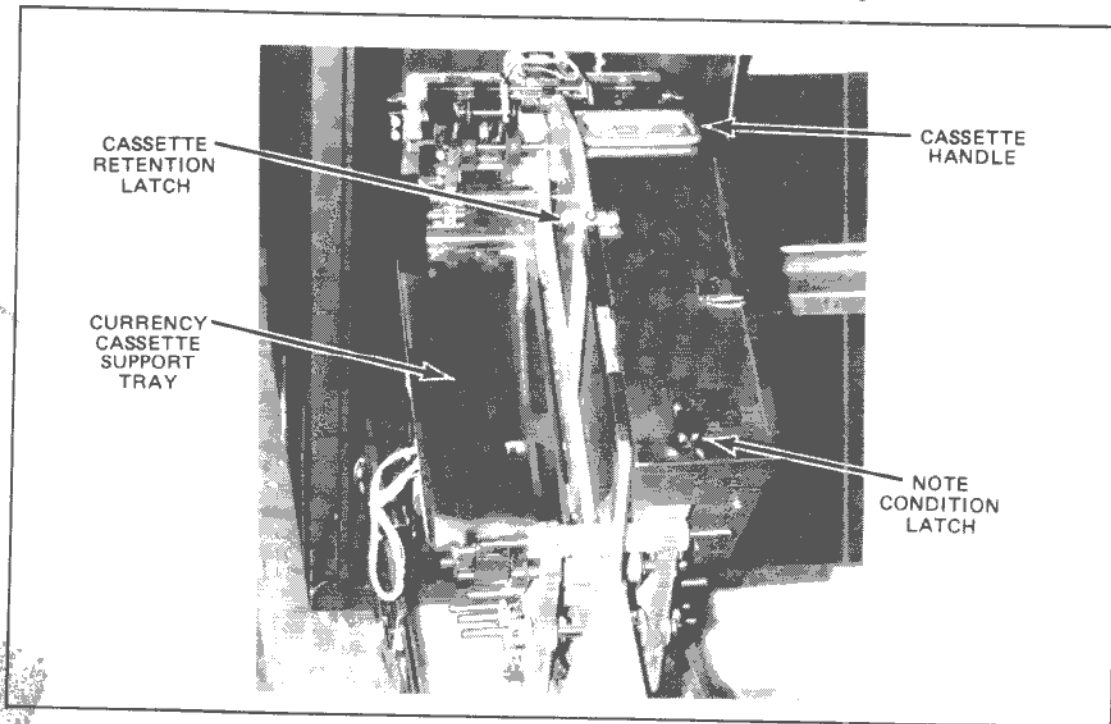
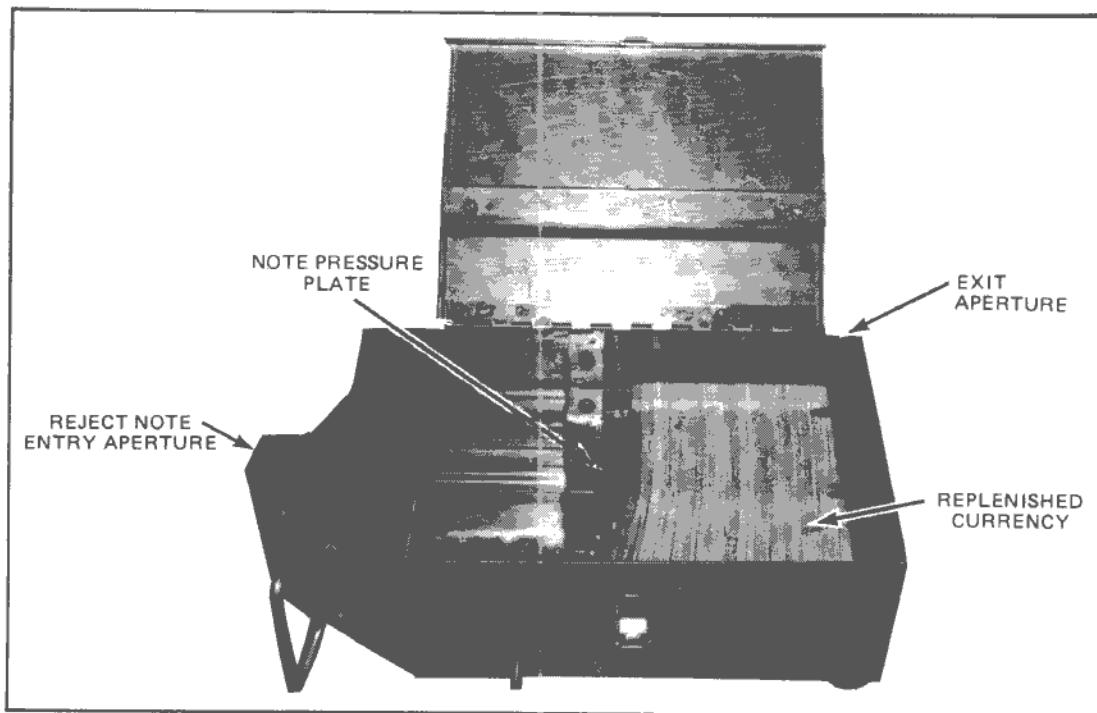

Figure 3-17. Currency Dispenser System Withdrawn
Figure 3-20. Loaded Currency Cassette
2. Turn the Cassette Retention Latch (refer to figure 3-17) clockwise until it lies in a vertical position.
1. Holding the cassette handle, insert the rear of the cassette into the currency cassette support tray (refer to figure 3-17) and ease the front of the cassette gently into place.
The cassette is divided internally into two compartments; one for notes to be dispensed, and one for notes which have been rejected. The compartments are separated by a sliding note pressure plate. Its main purpose is to hold the notes to be dispensed correctly stacked, and to force them towards the exit aperture (refer to figure 3-20). The pressure plate assembly contains a magnet which is used to indicate to the controller when the cassette contents run low. A note condition latch (refer to figures 3-17 and 3-18) can be set to either "mint notes", or "used notes". This increases the note contact with the separation belt when mint currency is used, and improves note separation. The cas-
3. With the note pressure plate moved away from the exit aperture, the notes are loaded into the cassette, and the pressure plate is moved to its operational position against the stack (refer to figure 3-20).